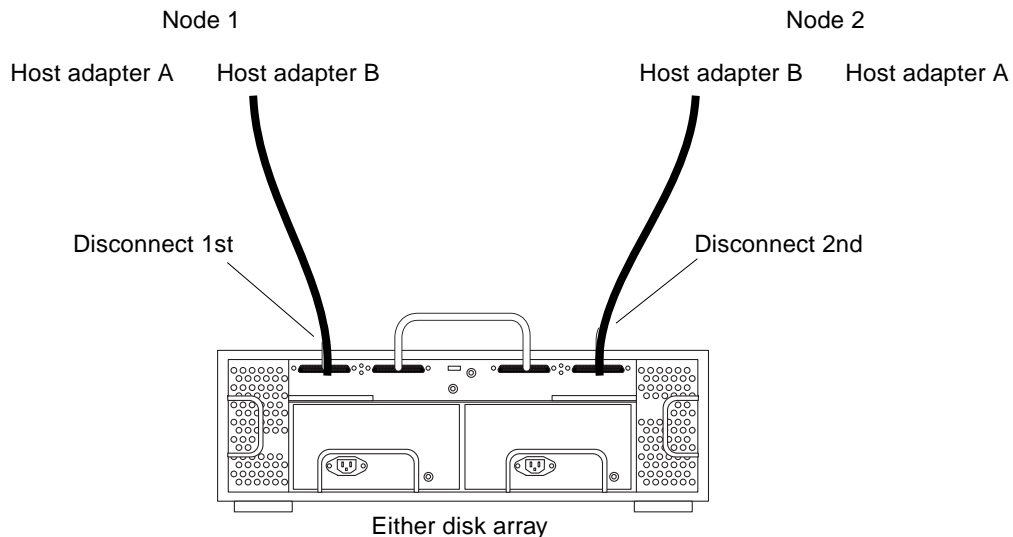

FIGURE 5-4 Disconnecting the SCSI Cables
- 3. Disconnect the SCSI cables from the StorEdge D1000 disk array, removing them in the order that is shown in FIGURE 5-4.**
6. **Connect the SCSI cables to the new StorEdge D1000 disk array, reversing the order they were disconnected, as shown in FIGURE 5-4.**